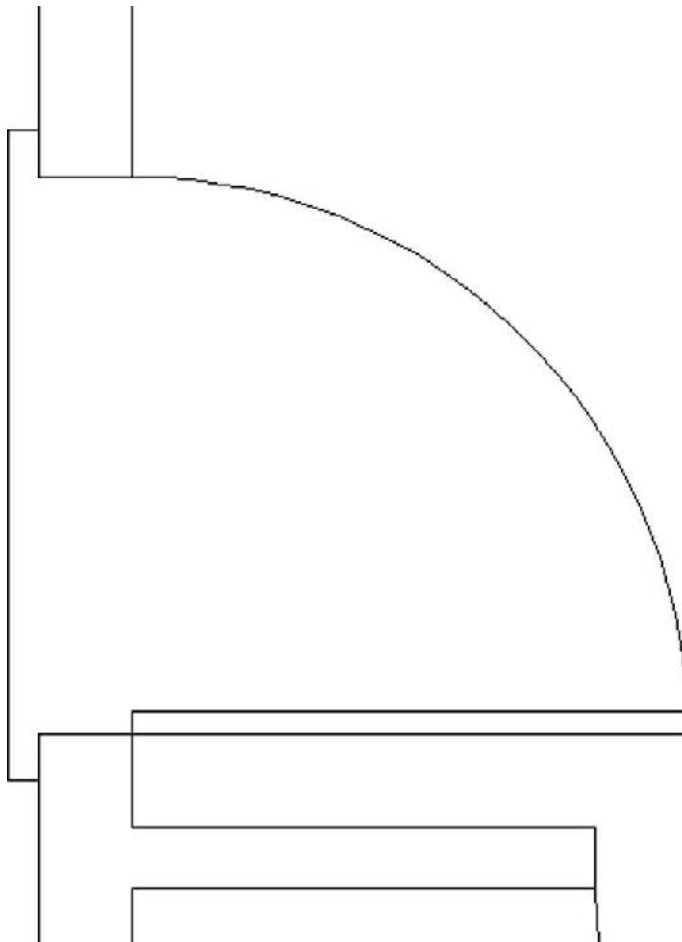

FIGURE 5.10: The completed back threshold
8. Press **↵** to end the **LINE** command. The back threshold should look like Figure 5.10.